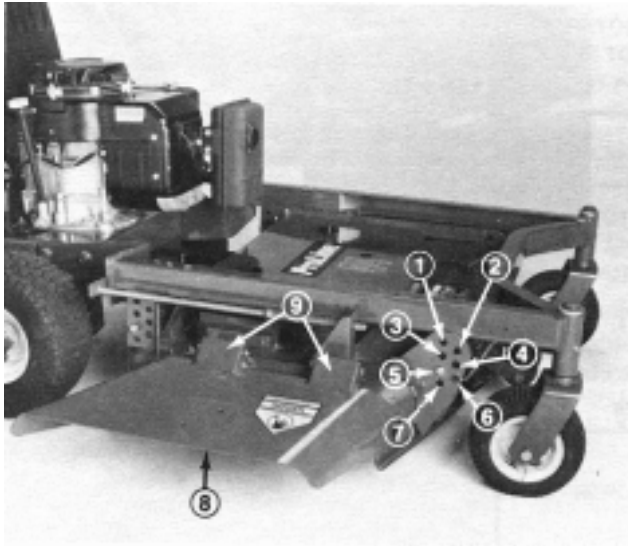

Figure 5
2. Mount cutting unit to carrier frame with four (4) clevis pins and hair pin cotters (Fig. 5).
The height-of-cut is adjustable from 1" to 4" or 2" to 5" (depending on traction unit) in 1/2" increments by relocating clevis pins in different hole locations in brackets at each corner of cutting unit (Fig. 5). Stop engine before making height-of-cut adjustment.